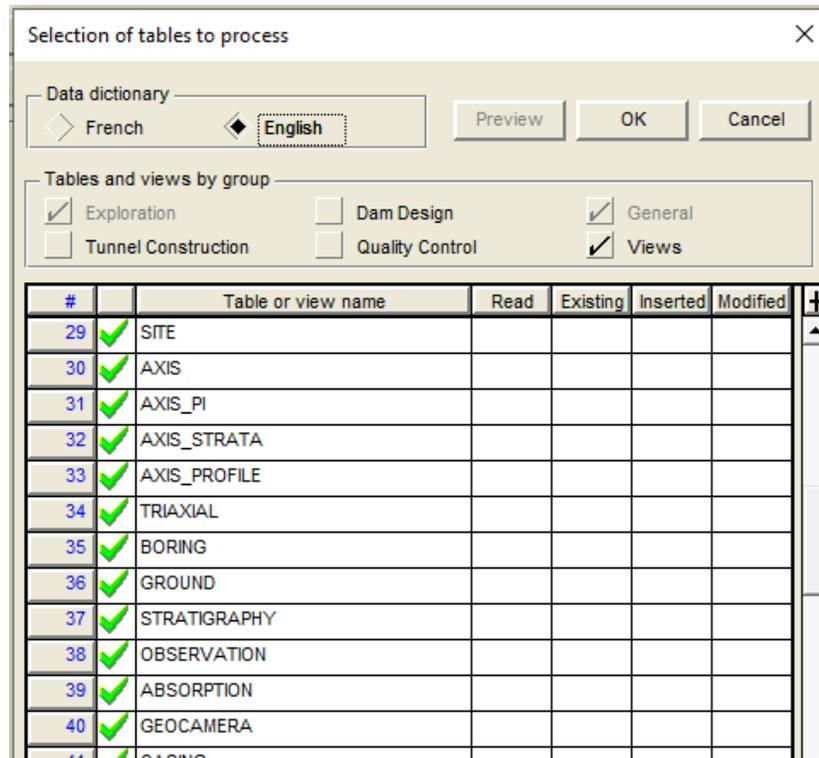

Figure 8 – Selection of tables to process
5. Click **Execute** in the main window; the selection window of tables to process opens (figure 8).
3. Click **Execute** in the main window; the selection window of tables to process opens (figure 8).